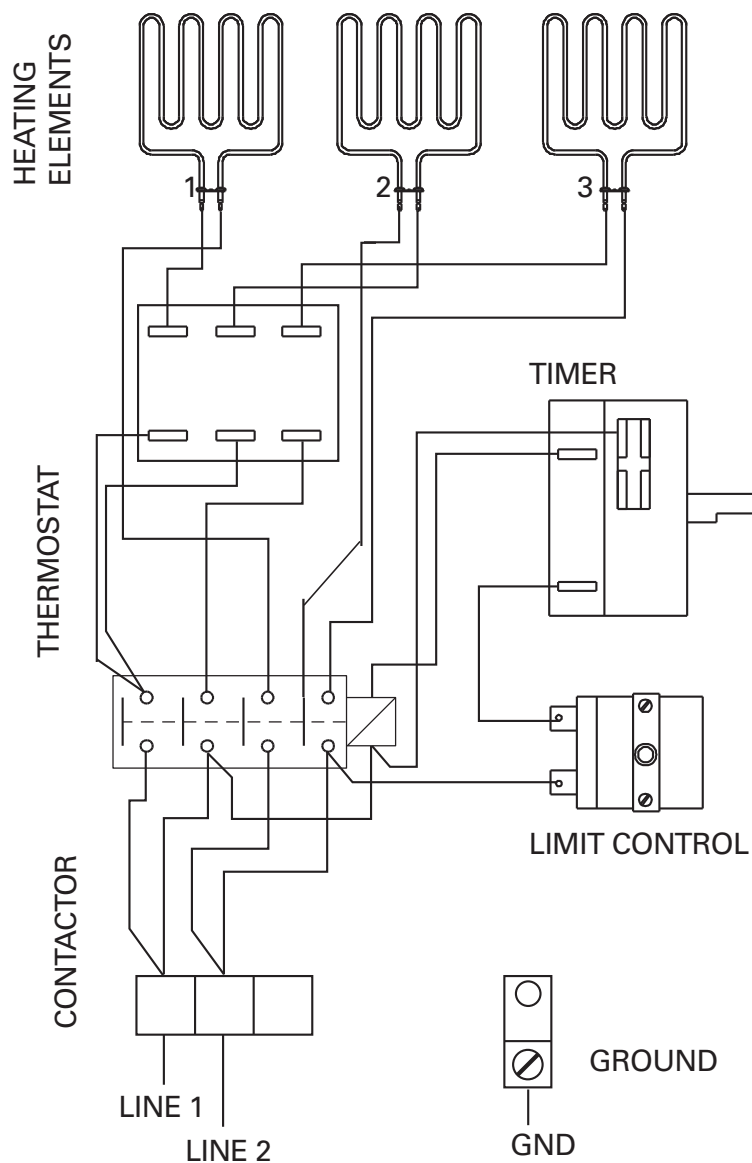

Figure 4.
2. See applicable wiring diagram figure 4 for heater model. Heater must be permanently installed (no pigtails or plug allowed) and wiring must be done by a licensed electrician, who must follow wiring diagram provided and adhere to local codes. Use proper A.W.G. rated wire size and use copper wire suitable for 194°F (90°C) within sauna walls. Use grounding terminals provided in sauna heater, control system, and contactor to properly ground the equipment as per NEC and local codes.